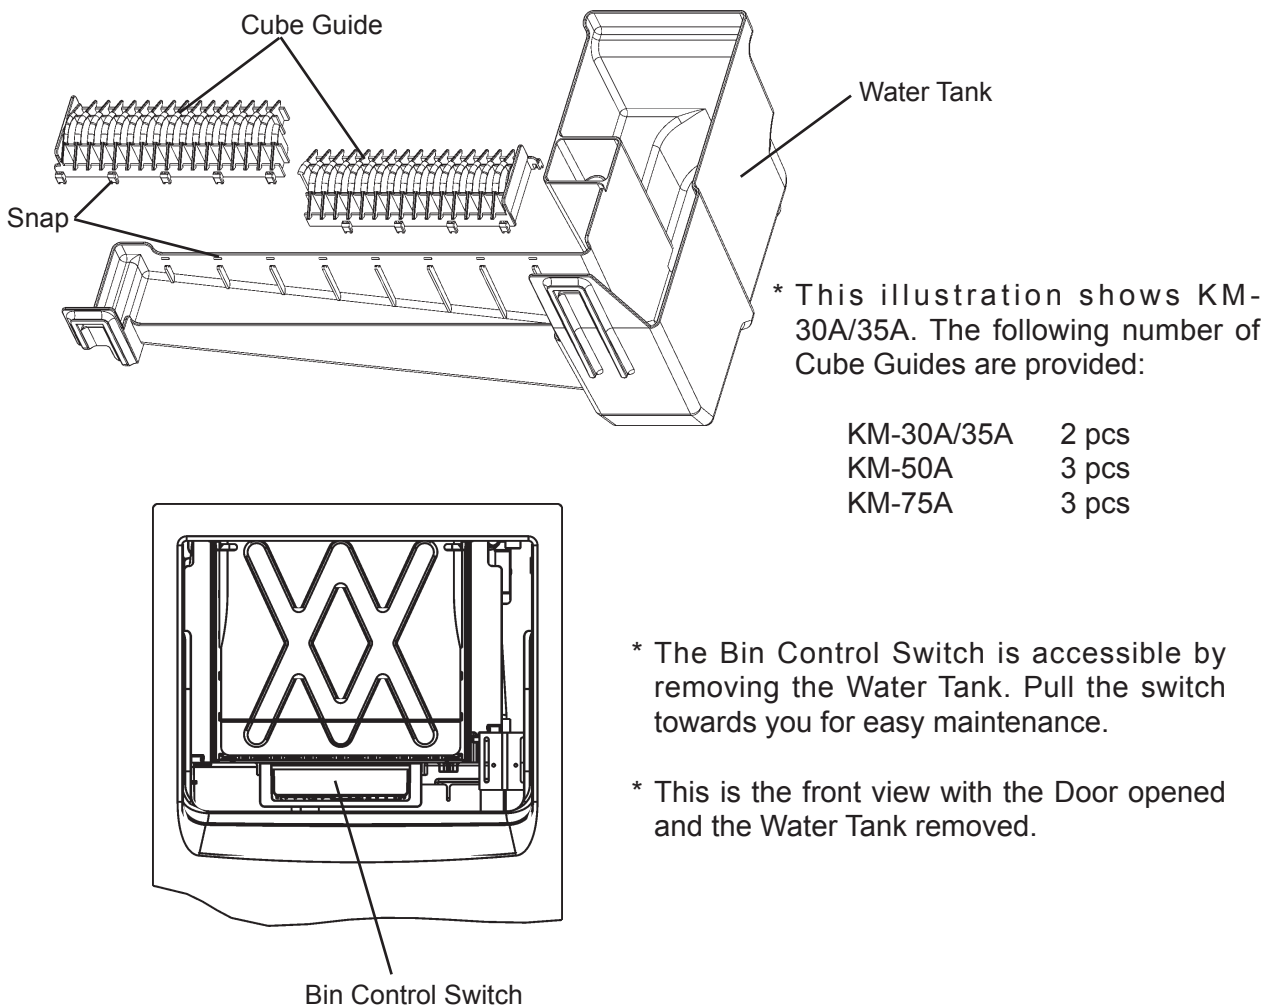

Fig. 30
- 14) Pull the Cube Guides (quantity varies depending on model) upward to remove them from the Water Tank. They are snapped in place. See Fig. 30. Refer to “V. 16. CUBE GUIDE” for details.